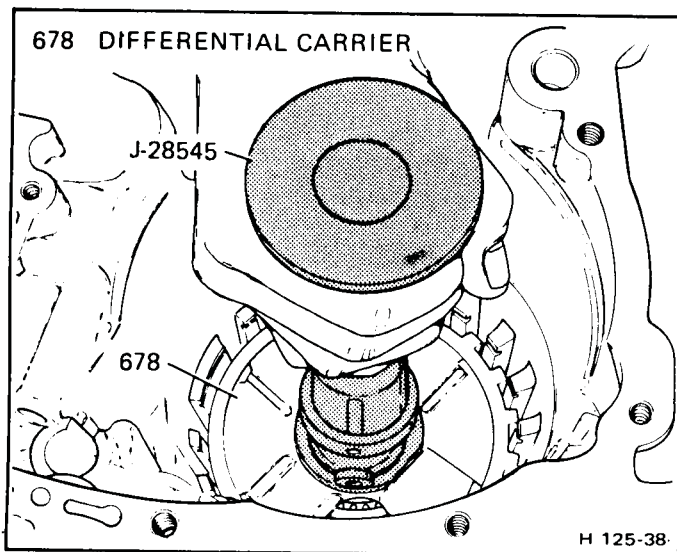

Figure 40 Removing Final Drive Assembly
- Case (112) thoroughly with solvent and air dry.
**Inspect (Figure 40)**
- Case bushing (116) – for scoring
- Converter seal (115) – see drive sprocket support inspection replace
- Axle seal (117) – for damage